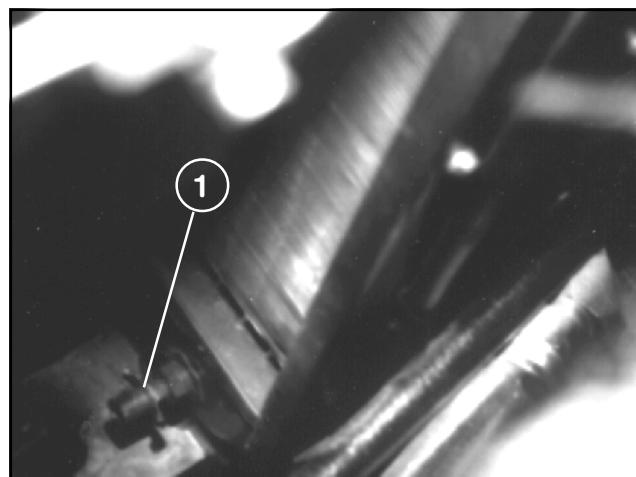

Figure 31
## CHANGING ENGINE COOLANT (Fig. 31)
3. Open coolant drain cock at bottom of radiator and allow coolant to flow into drain pan. When coolant stops, close drain cock. (Fig. 31)